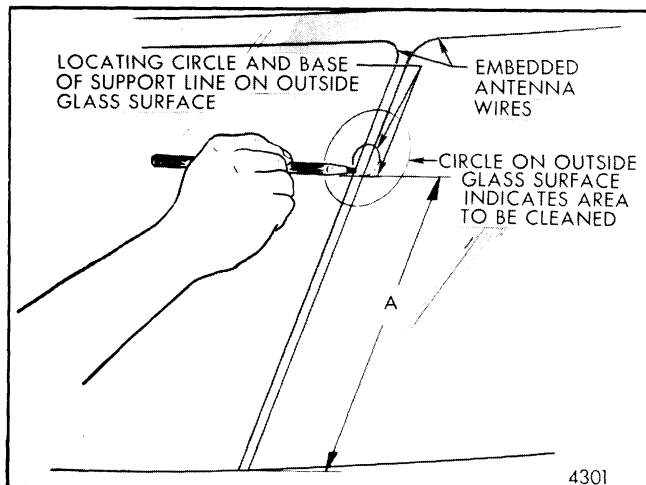

Fig. 1-18-Locating Bonded Rear View Mirror Support on Glass
at one of following dimensions from base of glass to base of support (dimension "A", Fig. 1-18):
2. When location is determined, mark location on outside of glass with wax pencil or crayon. Also make larger diameter circle around the mirror support circle, on the outside glass surface (see Fig. 1-18).